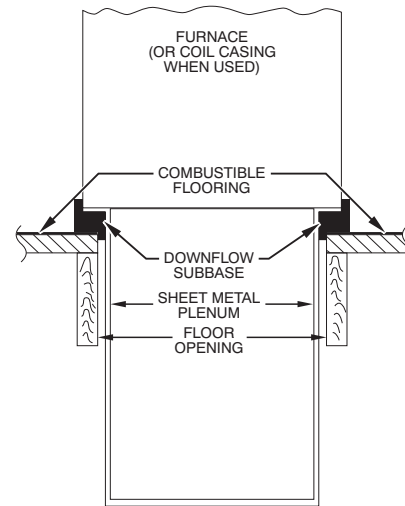
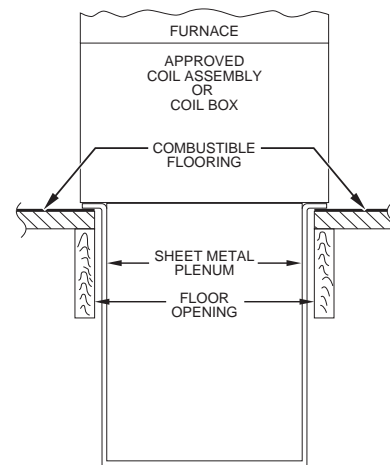

Fig. 10 – Furnace, Plenum, and Subbase Installed on a Combustible Floor
Fig. 11 – Furnace, Plenum, and Coil Assembly or Coil Box Installed on a Combustible Floor
4. If downflow subbase is used, install as shown (see Fig. 10). If Coil model number END4X, ENW4X or Coil Casing model number NAEA is used, install as shown (see Fig. 11).